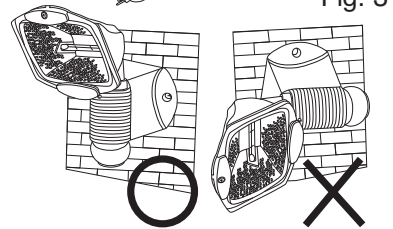

Fig. 4
- Mount fixture vertically, not horizontally (Fig. 4).
4. Mount fixture vertically not horizontally (Fig. 4).